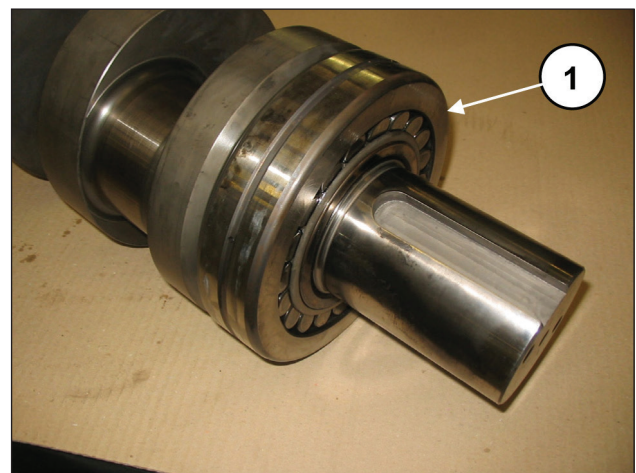
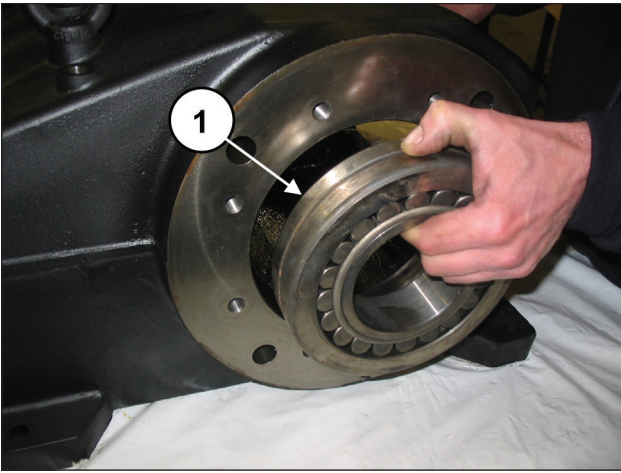

Fig. 42
Fig. 43
Pre-assemble the bearing, PTO side, on the shaft to the end stroke (pos. ①, Fig. 42) and mount the bearing on the opposite side on the casing (pos. ①, Fig. 43).
**The bearing in Fig. 43 has a tapered internal ring. Check that the taper goes from the outside inwards to allow inserting the bush.**